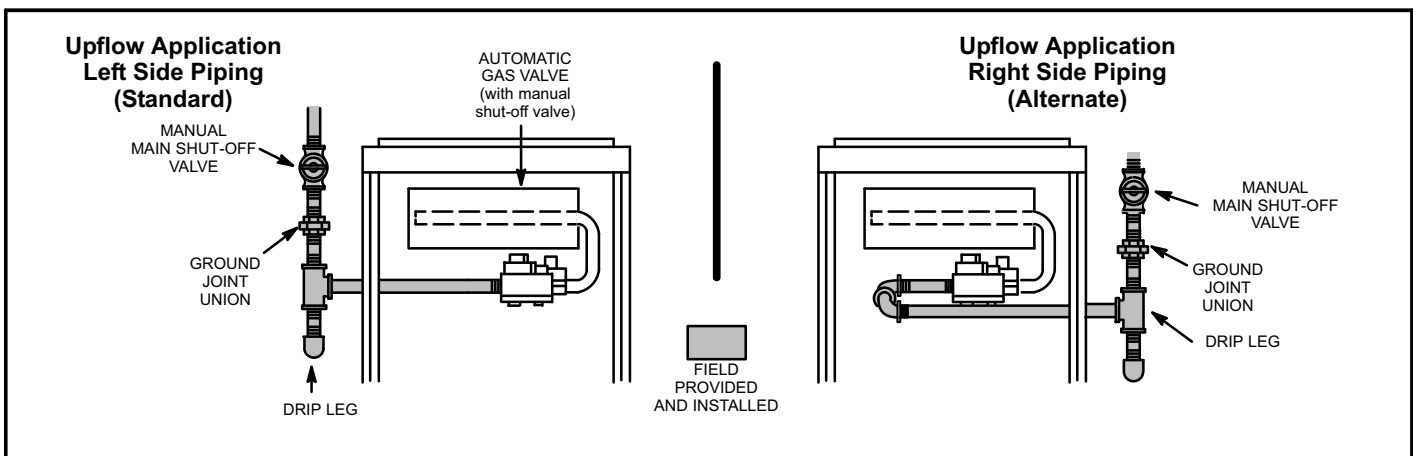

FIGURE 51
- 1 - Gas piping may be routed into the unit through either the left- or right-hand side. Supply piping enters into the gas valve from the side of the valve as shown in figures 51 and 52.
- 3 - Gas piping must not run in or through air ducts, clothes chutes, chimneys or gas vents, dumb waiters or elevator shafts. Center gas line through piping hole. Gas line should not touch side of unit. See figures 51 and 52.